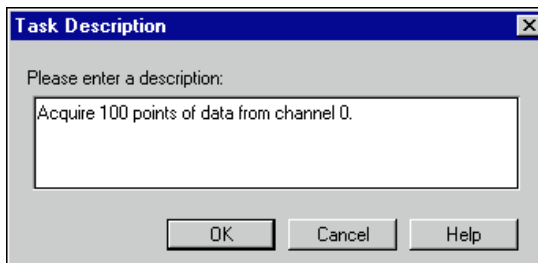

Figure 2-3. Task Description Dialog Box
6. Click on the **Description** button to add a description for your task under development, as shown in Figure 2-3. Type Acquire 100 points of data from channel 0 in the Task Description dialog box, and click on the **OK** button.